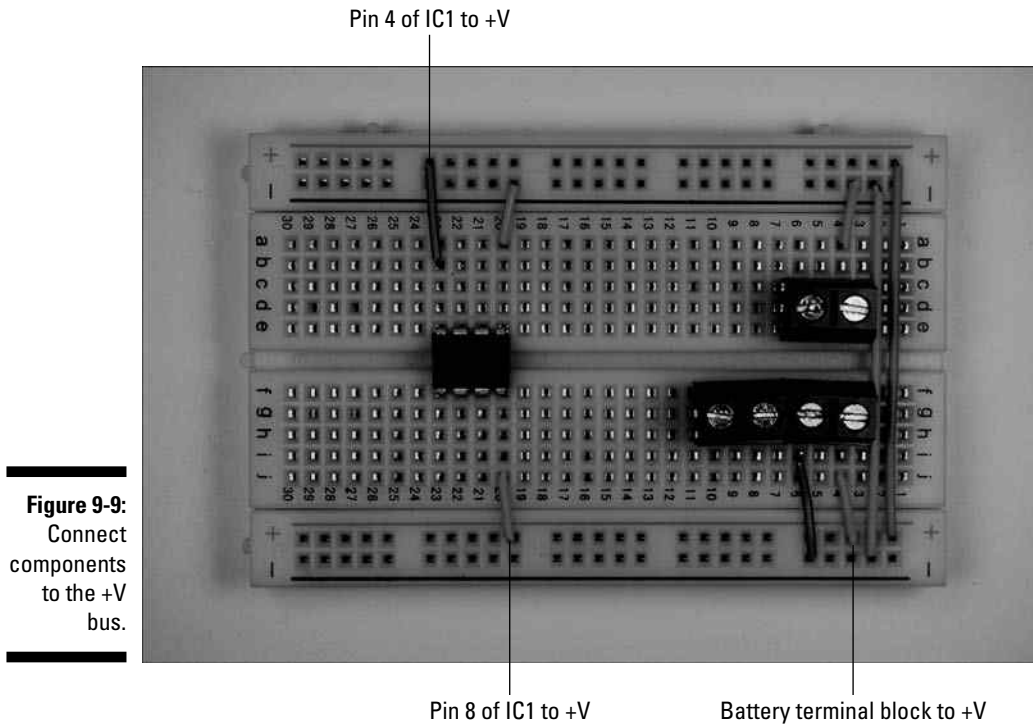

Figure 9-9:
3. **Insert wires to connect the IC and the terminal block for the battery to the +V bus, as shown in Figure 9-9.**